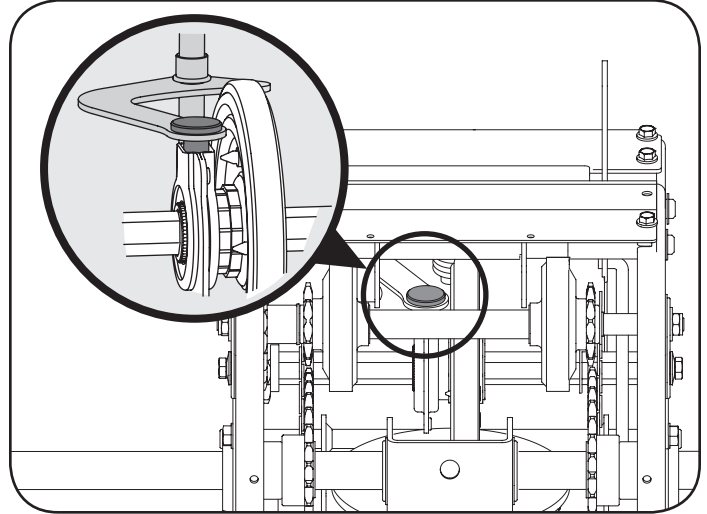

Figure 33
9. Reposition the friction wheel assembly in the snow thrower frame. Insert the pin from the shift arm assembly into the friction wheel assembly and hold assembly in position. Refer to Figure 33.